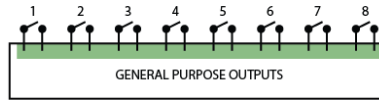

Figure 2.2: GPO Pinout
Each GPO port features a normally-open (NO) relay for switching external equipment. The relay can switch 50VAC/30VDC up to 3A. Please refer to figure 2.2 for the pinout of the GPO connector.